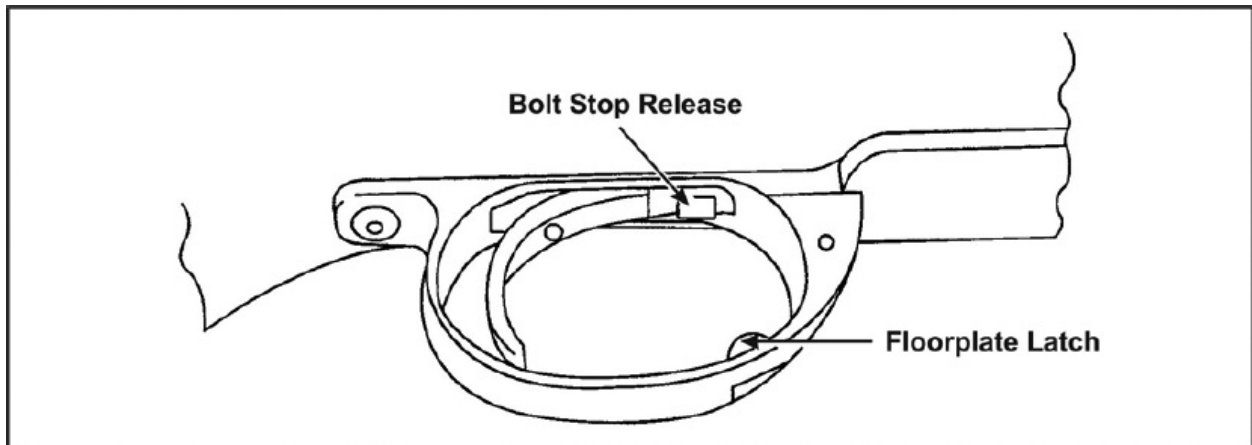

Figure 2-3. Bolt stop release
- To remove the bolt from the receiver, place the safety in the “S” position, raise the bolt handle, and pull it back until it stops. Push the bolt stop release up (Figure 2-3) and pull the bolt from the receiver.